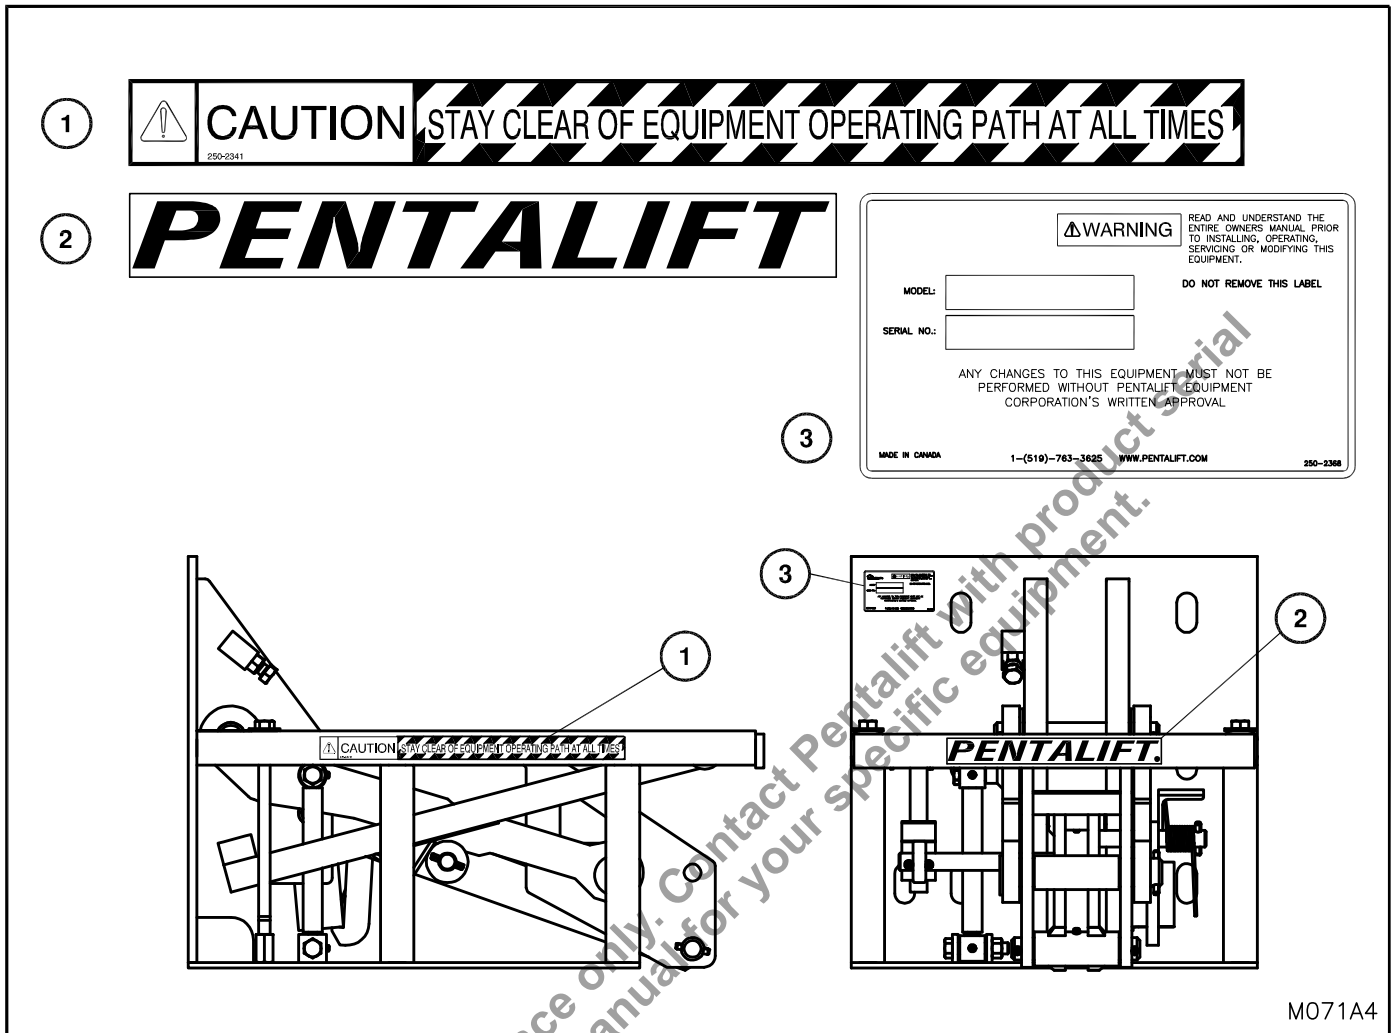

Figure 1: Safety Labels and Decals
**NOTE:** In some instances, product configuration and / or product options may dictate that the product labels will not be placed as indicated on the drawing (Figure 1: Safety Labels and Decals). Different label locations will be selected at the factory, when required, to avoid an impaired view of the labels. Note the label locations as supplied on the product when it is received to accommodate future label replacement requirements.